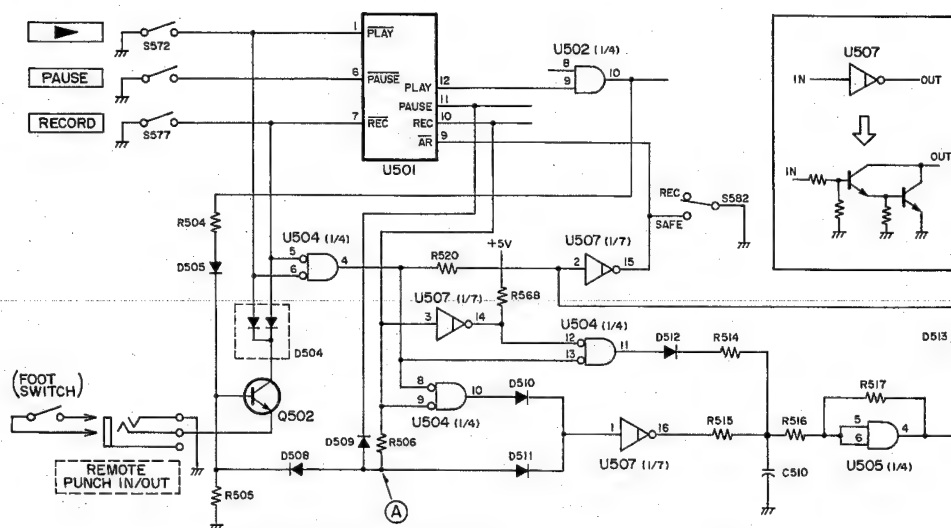

Fig. 6-9 Punch in/out circuit パンチ・イン・アウト回路
Since pin 10 of U501 (and pin 9 of U504) is H during REC/PLAY, pin 10 of U504 is L. Since pin 11 of U501 is L, point A in fig. 6-9 is also L. When both pin 10 of U504 and point A are L, pin 1 of U507 is L. U507 is an open collector type transistor array as can be seen by its interior circuitry in fig. 6-9. Therefore, when pin 1 of U507 is L, pin 16 is not H, but the transistor is off. On the other hand, pin 10 of U501 (pin 3 of U507) is H, pin 14 of U507 is L. Since pin 4 of U504 is L, pins 12 and 13 of U504 are both L, pin 11 H. Therefore, C510 is charged from pin 11 of U504 via D512, R514, and pins 5 and 6, as well as pin 4, of U505 are H. Since pin 4 of U504 is L at this time, pin 2 of U507 also is set to L and pin 15 to H.
(3) REC/PLAYからPLAY (PUNCH OUT)
REC/PLAY中 U501のピン10 (U504のピン9) はHなので U504のピン10はLになっています。またU501のピン11はLなので図6-9中の④点もLになっています。U504のピン10と④点が共にLなのでU507のピン1はLです。ここでU507は図中にその内部回路を示してあるようにオープン・コレクタ型のトランジスタ・アレイです。このためU507のピン1がLのときピン16はHではなく、トランジスタOFFの状態になっています。